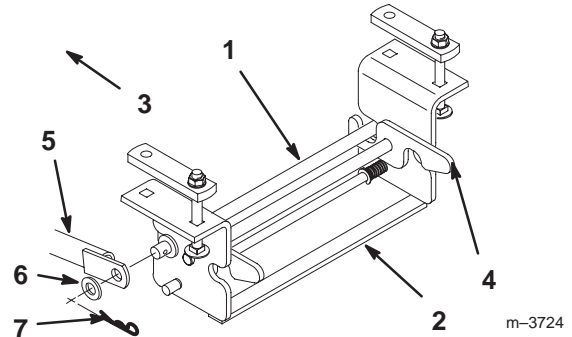

Figure 29
- Remove the other ends of the two support braces from the rear Attach-A-Matic™ hitch mount by removing the hairpin cottes and washers (Fig. 29).
- Release the latches on the rear Attach-A-Matic™ hitch and remove the support rod link (Fig. 29).